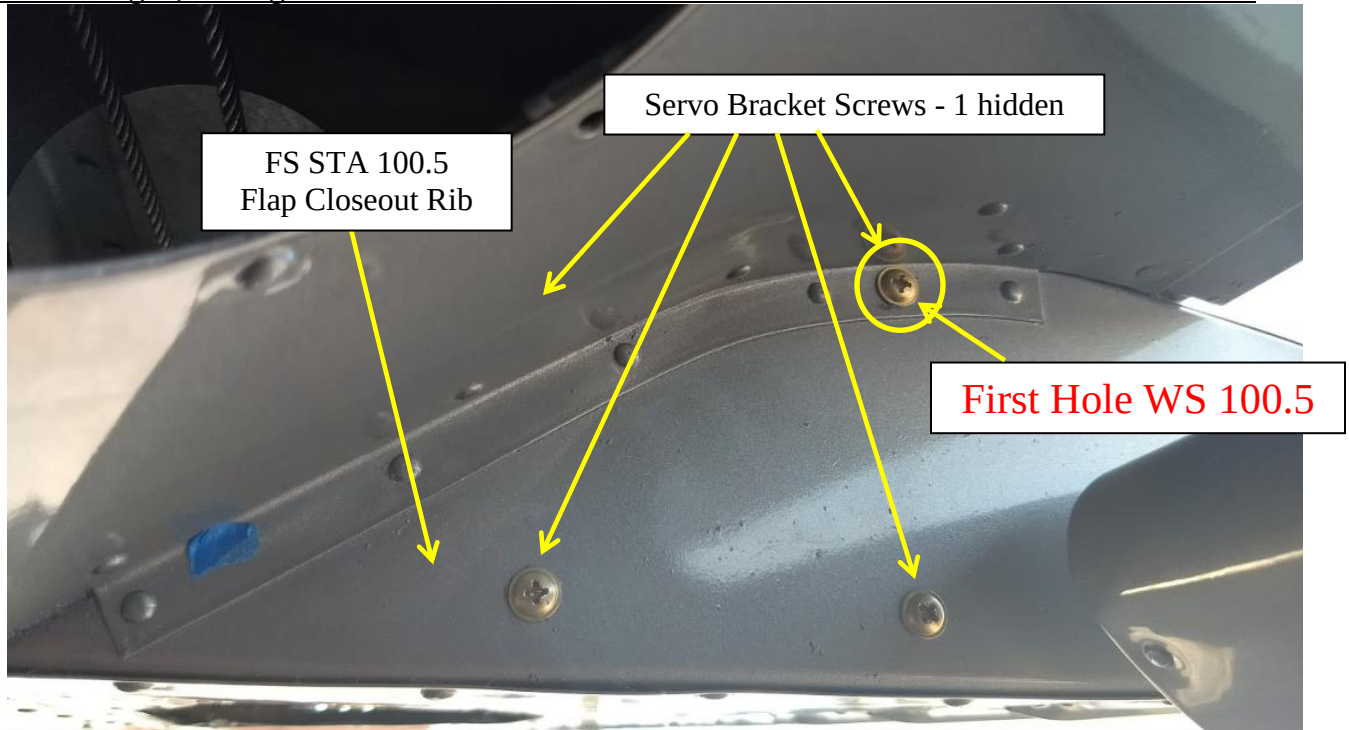

FIGURE 3-8 VIEW LOOKING OUTBOARD AT STA 100.5 RIB
17. It may be required to enlarge the rivet clearance holes due to differences in the rivet patterns between aircraft. Refer to Figure 3-8.
18. With the roll servo bracket secured into position locate the position of the two (2) trim piece rivet shop heads on the WS 100.5 rib.
26. Four (4) M3 screws supplied in the autopilot hardware kit have been coated with Loctite 202 thread locker. DO NOT apply additional thread locker to the M3 screws.
27. Fasten the roll servo arm, p/n 1006402-3 / -5, to the servo hub using the four (4) M3 (metric) screws supplied.
29. The four (4) outer baseplate holes must be enlarged for #8 screws using a #18 drill bit. Refer to Figure 3-8.
31. Affix the four (4) 10085 retainers to the MS27039 screws as shown in Image 3-7.
32. Mount the roll servo to the bracket assembly using the four (4) MS27039-0807 screws. The bracket assembly and servo must be joined together inside the wing.
42. This measurement will be the Center to Center Rod End measurement with four (4) rod end threads showing on each end.
46. Using a V Block drill through the push pull tube using a #40 HSS drill bit and deburr. Refer to Figure 3-8 for rivet positioning.
5. Position the Pitch Servo Tray Assembly between the left hand and right-hand stringers and slide the assembly aft until the ZEE Angle vertical inner faces are coincident (snug) with the stringers as depicted in Figure 3-8 & 3-9.